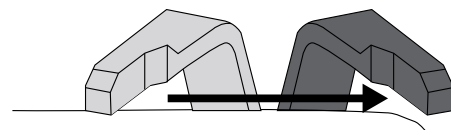

Figure 13 - Choke Lever - OFF
10. As the engine starts and stabilizes, gradually move the choke lever back to the **OFF** position (see Figure 13 below).